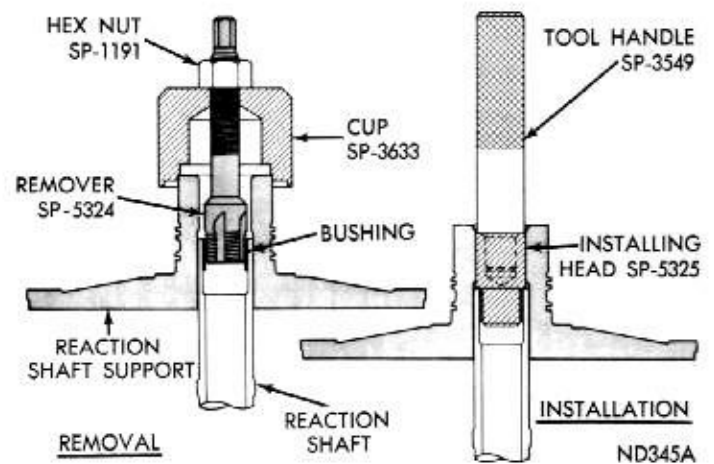

Fig. 48—Replacing Reaction Shaft Bushing (A-904)
(1) Assemble remover Tool SP-5324, cup Tool SP-3633, and hex nut Tool SP-1191 (Fig. 48).
(2) With cup held firmly against reaction shaft, thread remover into bushing as far as possible by hand.
(3) Using a wrench, screw remover into bushing 3 to 4 additional turns to firmly engage threads in the bushing.
(4) Turn hex nut down against cup to pull bushing from reaction shaft. Thoroughly clean reaction shaft to remove chips made by remover threads.
(5) Lightly grip bushing in a vise or with pliers and back tool out of the bushing. Be careful not to damage threads on bushing remover.
(6) Slide a new bushing on installing head Tool SP-5325, and start them in the bore of reaction shaft (Fig. 48).
(7) Support reaction shaft upright on a clean smooth surface and install handle Tool SP-3549 in